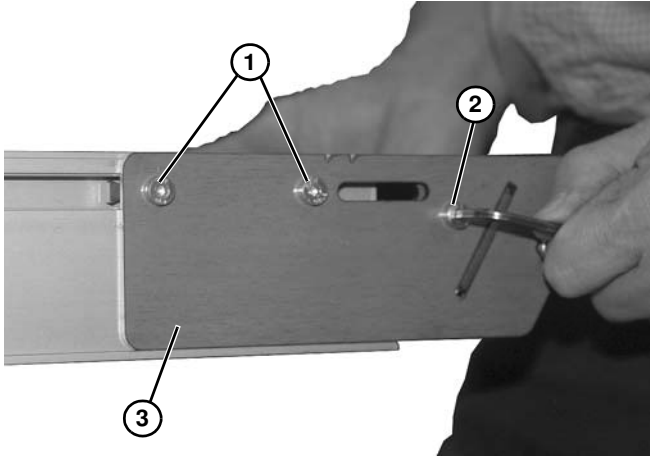

Figure 78
1. On both sides of conveyor, loosen two fastening screws (**Figure 78, item 1**) to remove belt tension. Remove belt from end of conveyor. (Refer to “Belt Removal for End Drive and iDrive Conveyors” on page 19.)
2. Remove two screws (**Figure 78, item 1**) and screw (**Figure 78, item 2**) from side plate (**Figure 78, item 3**).